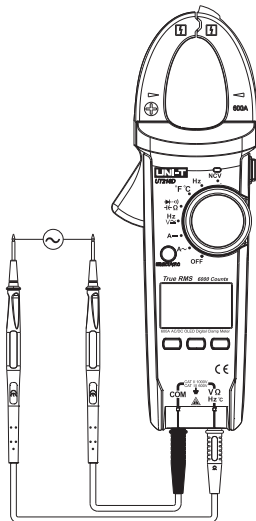

Fig. 11
10.Measurement of frequency (shown as Fig. 11)